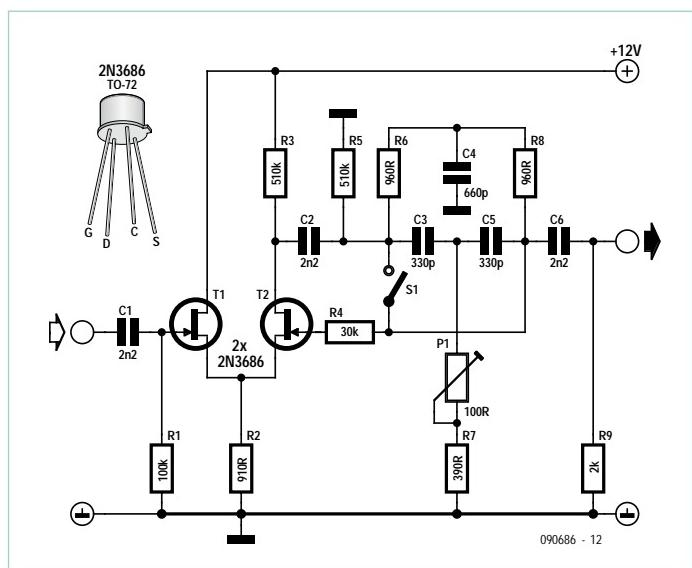

Figure 2. This filter with an RC network in the positive feedback path offers a true notch (frequency reject) response.
The notch filters described here are of the LC and RC type, and intended for application in the intermediate frequency (IF) section of a radio receiver. Their principle of operation is identical, though the circuit in **Figure 1** is a sharp filter tuned to the signal, and the one shown in **Figure 2**, a notch suppressing selected noise components. Both have an on/off control and a ‘depth’ (or ‘peak’) control included. They are designed for operation at 502.7 kHz (basically 500 kHz IF + 2.7 kHz sideband) in terms of the frequency-determining components.
The filters consist of a source follower T1 at the input and an amplifier stage T2 with a degree of positive feedback. The operating frequency of the filters is defined by the LC (Figure 1) or RC parts (Figure 2) in the positive feedback path.
The amount of positive feedback and with it the effectiveness of the filters is adjusted by selection (or fine tuning) of resistor R4 in the LC circuit (Figure 1), or adjustment of P1 in the RC circuit (Figure 2). The operating frequency (rejection frequency) of the LC filter can be fine tuned by trimmer C4. Alternatively, a varicap (variable capacitance diode) with a 25 pF range may be used in this position. Switch S1 is the On/Defeat control for both filters.